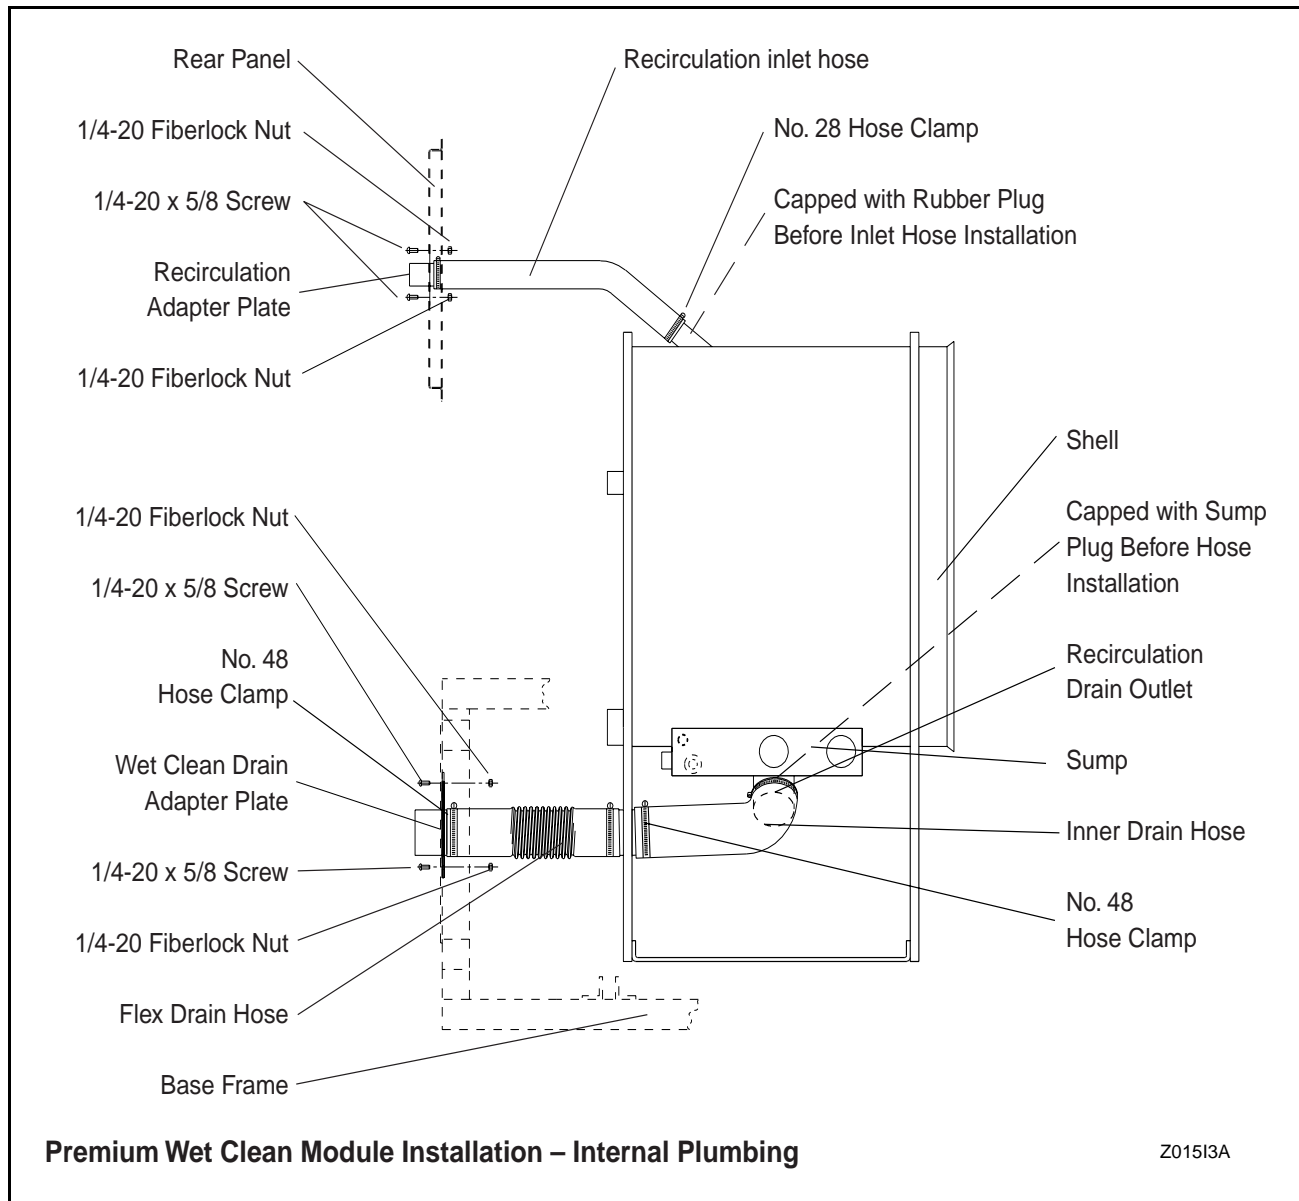

Figure 20
- b. Remove the sump plug from the recirculation drain outlet. See Figure 20.
- d. Install the inner drain hose and flex drain hose as shown in Figure 20.
- a. Remove the cap on the recirculation inlet on top of the shell. See Figure 20.